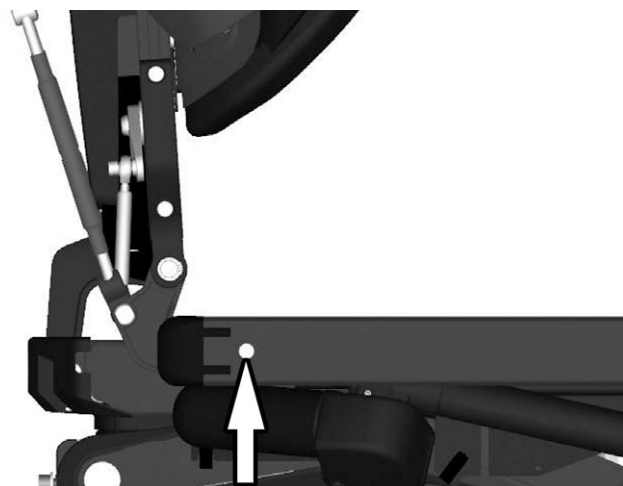

Figure 77. The rear attachment screw of the UniTrack rail.
6. Remove the rear attachment screw of the UniTrack rail on the left and right hand side of the seat. See fig. 77.